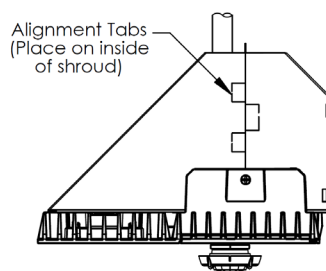
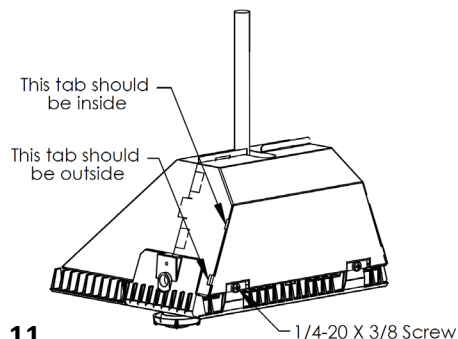

Fig. 9
Fig. 11
1. With luminaire in installed position, place the 2 piece Bird Shroud on top of luminaire as shown in Fig. 9.
4. Secure Bird Shroud to luminaire heat sink by placing alignment tabs between heat sink fins and pushing Bird Shroud down so that it sits flat on the heat sink as shown in Fig. 9 & 10. If installing Bird Shroud for single light engine configuration, remove (2X) ¼-20 set screws and secure smaller Bird Shroud to heat sink using (2X) ¼-20 x 3/8 screws (provided) as shown in Fig. 11.